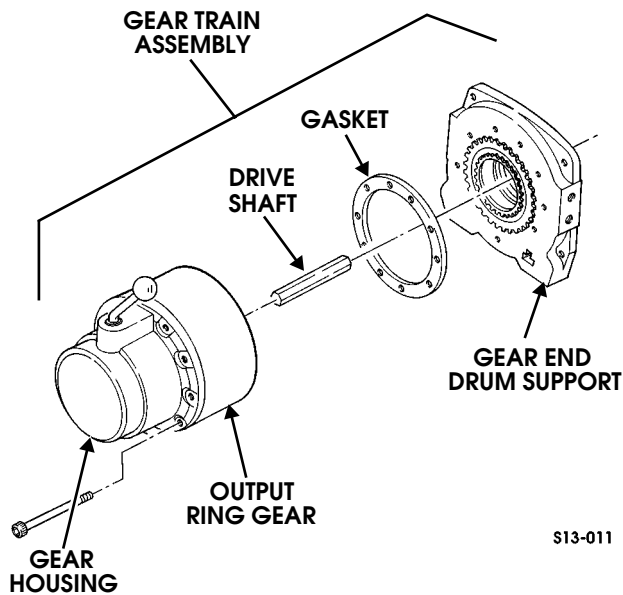

Figure 13-18: Gear Train Assembly
11. Install gasket on output ring gear (Figure 13-18).
15. Install driveshaft in gear train assembly (Figure 13-18).